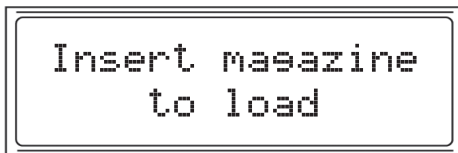

Fig. 11
- If there is no magazine in place, you will be prompted to insert a magazine (*Fig. 11*).